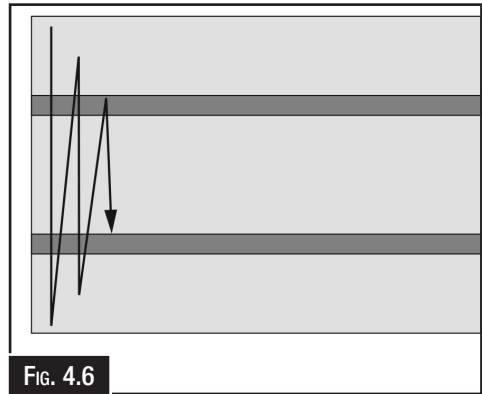

FIG. 4.6
1. From the starting point, roll the workpiece from the outside line on one side to the outside line on the opposite side. (Fig. 4.6)